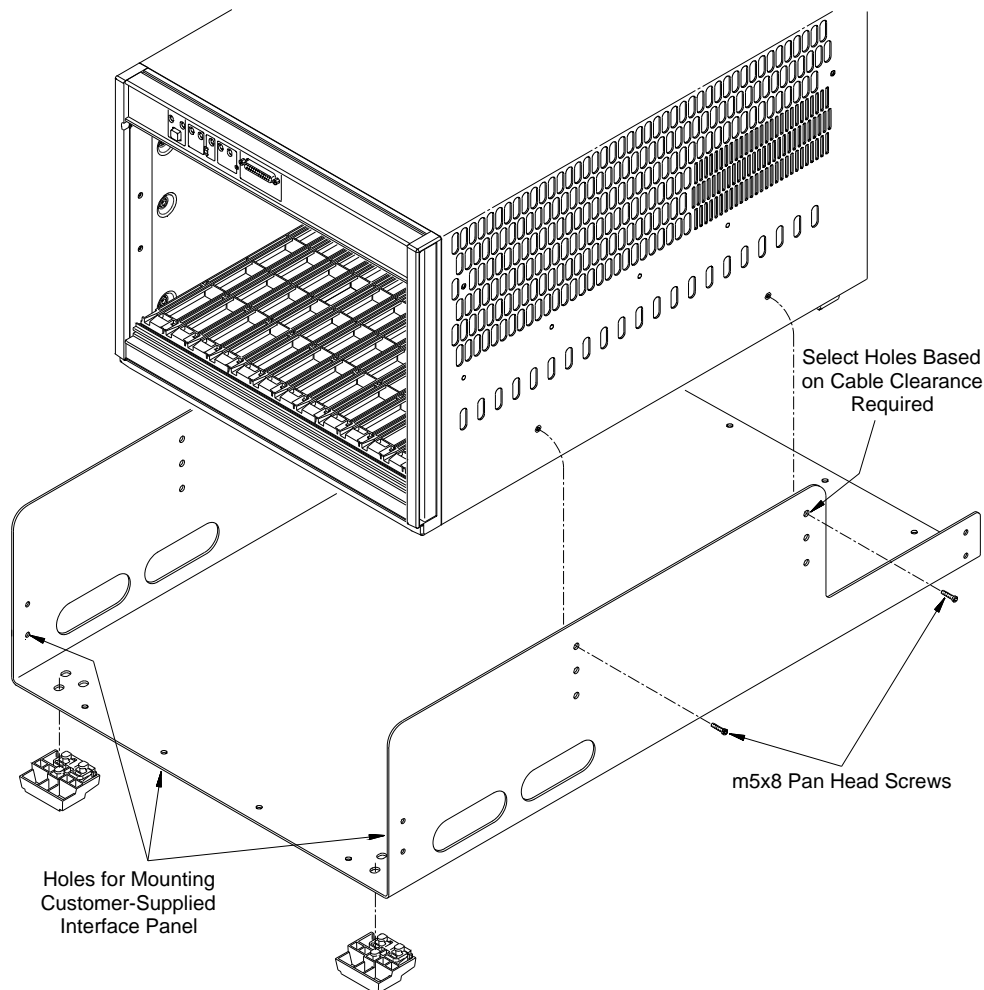

Figure 2-11. Installing the Cable Tray
2. Attach the cable tray to the mainframe as shown in Figure 2-11 using four m5x8 pan head screws. Select the tray holes based on the amount of cable clearance required.